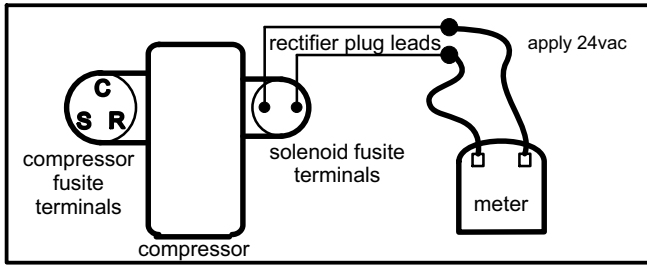

FIGURE 6
- 2 - Supply 24 volts AC control voltage to the wire ends of the full wave rectifier plug. Listen for a “click” as the solenoid is energized. See figure 6.